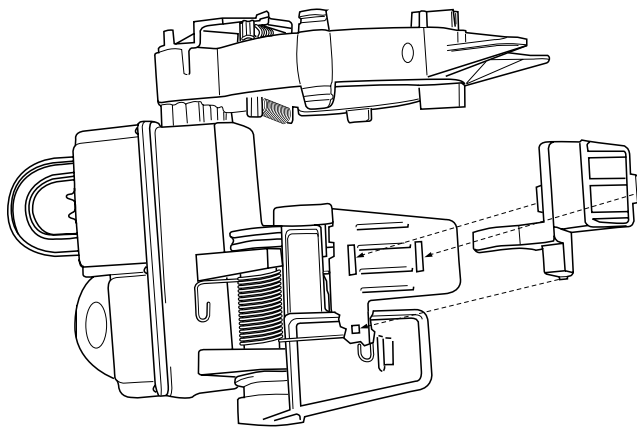

Figure 5. Remove clamp pads attached to each clamping arm on a mechanism where cable diameter exceeds 1"
2. **For applications where the cable diameter is less than 1", leave the clamp pads attached to the clamp arms. On installations where the cable diameter exceeds 1", remove the pads that are attached to each clamping arm.** Removing the pads will allow the clamping mechanism to properly attach to larger diameter cables. (See Figure 5.)